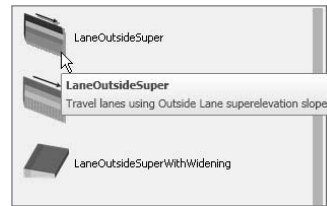

Figure A.73
4. Click the **LaneOutsideSuper** button on the tool palette, as shown in Figure A.73. The AutoCAD Properties palette will appear. Position the palette on your screen so that you can clearly see both the assembly baseline and the Imperial-Roadway tool palette.